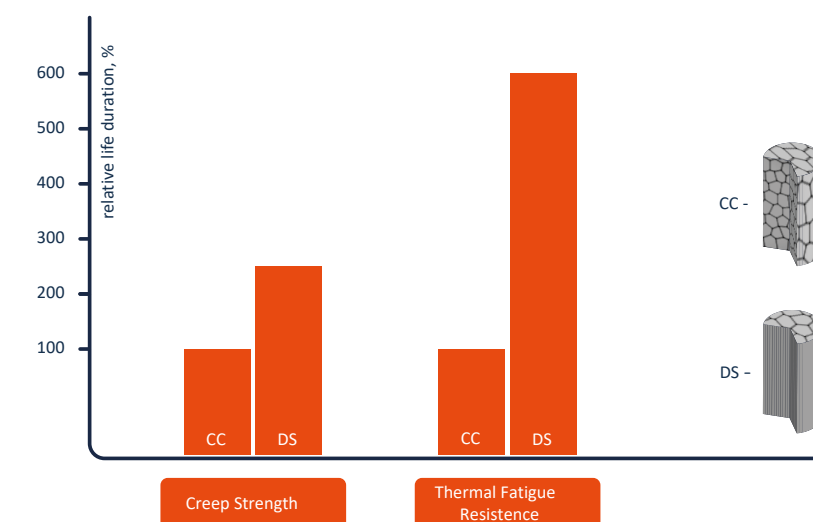

Fig. 1 Comparative relative lives of CC and DS alloys [after 1]
In many industries, AM is seen as a performance enabler, rather than a cost-reduction enabler. What needs to be accounted for is the benefit derived versus euros spent. In this case, material performance becomes a key factor. The casting process for turbine blades using conventional production technologies can be used as an example here: switching from the conventional cast (CC) process to the conventional directional solidification (DS) process results not only in a change of microstructure from polycrystalline to columnar-crystalline, but also in an increase in the creep strength of the material by 150%, and thermal fatigue resistance by 600% (Fig. 1) [1].